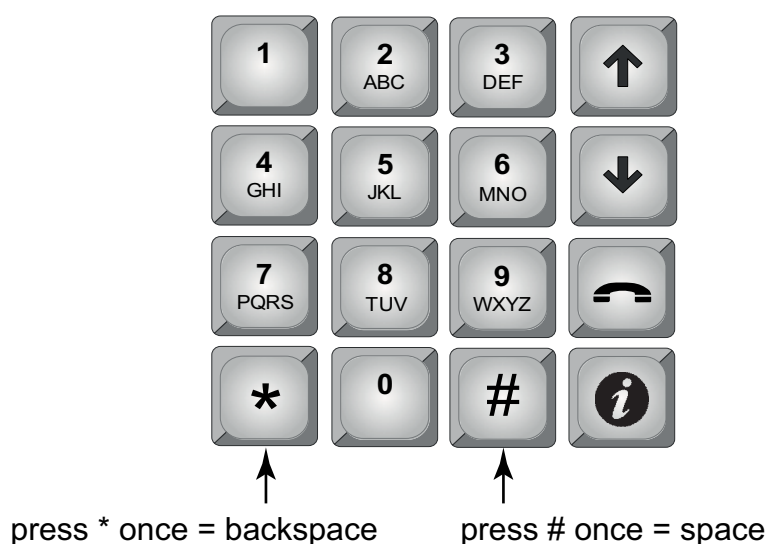

Figure 2. Keypad commands for entering an apartment number.
3. To enter an apartment number, use the number keys to select the appropriate characters. Maximum number of characters is 8. See Figure 2 for information about the characters that correspond to each number.